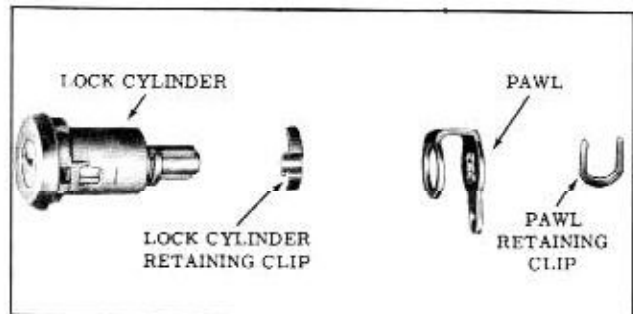

Fig. 17-29 Door Lock Cylinder Assembly
2. Remove pawl retaining clip, pawl and lock cylinder retaining clip. (Fig. 17-29)